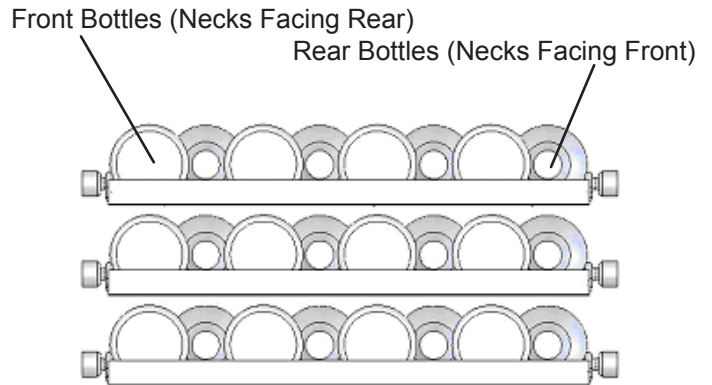

Figure 16
The four (4) pull-out shelves each hold eight (8) bottles. See Figure 16 for typical wine bottle spacing. Care should be taken when storing extra tall bottles in the wine cradle at the bottom of the compartment because they may prevent the door from closing.